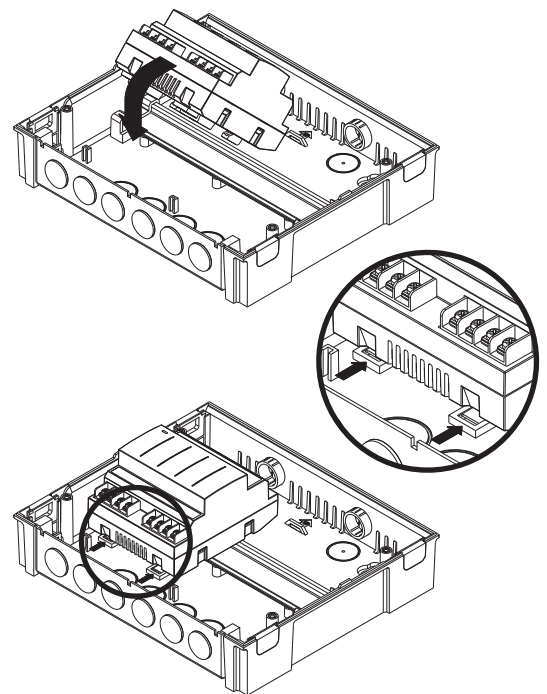

Figure 3: Mounting of modules on DIN Rail
- 9) Remove the replacement module from its packaging and - referring to Figure 3 - mount it on the DIN rail. Secure it to the rail by pushing in the retaining sliders until an audible “click” is heard.